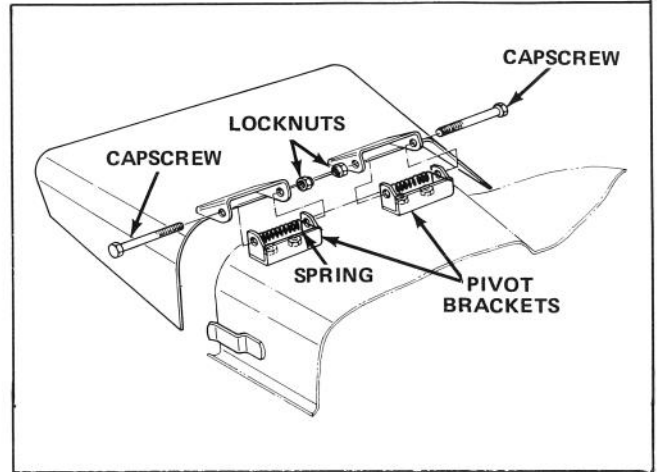

Figure 24
- 2. Remove two capscrews, locknuts and springs securing deflector mounts to pivot brackets (Fig. 24).
- 3. To remove the pivot brackets, remove carriage bolts, lockwashers and nuts (Fig. 24).